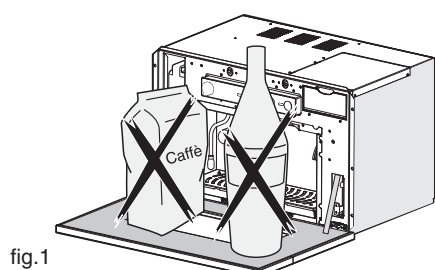

fig.1
- Do not use the openable part of the appliance to support objects (fig. 1)